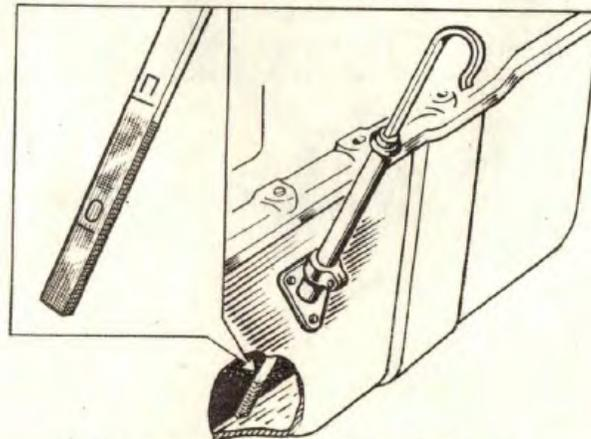
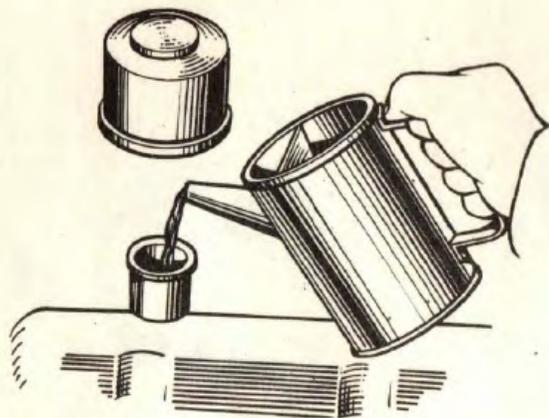

Fig. 10. Checking Engine Oil Level
Fig. 11. Refilling Engine with Oil
2. Check engine oil level. If it is below the "II" mark on the dipstick (Fig.10), refill (Fig.11).